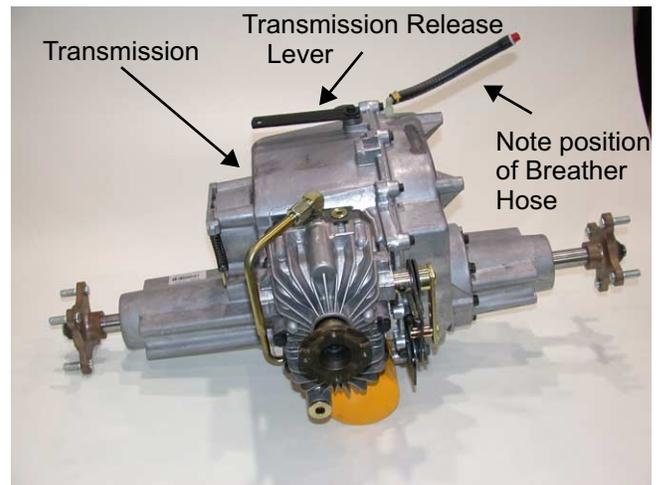

Figure 7.18
7.18. On Workbench. See Figure 7.18.